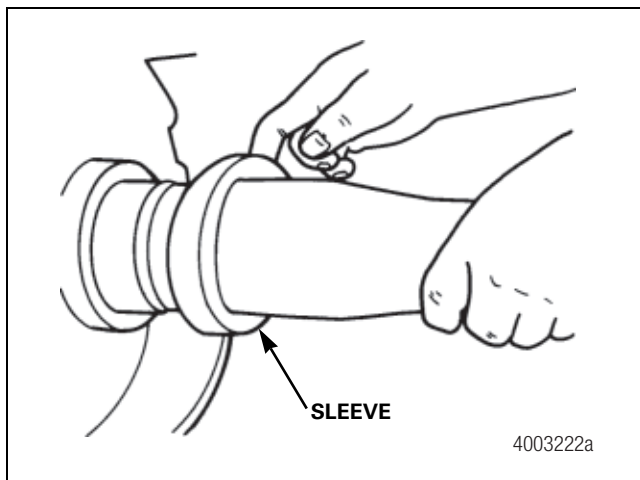
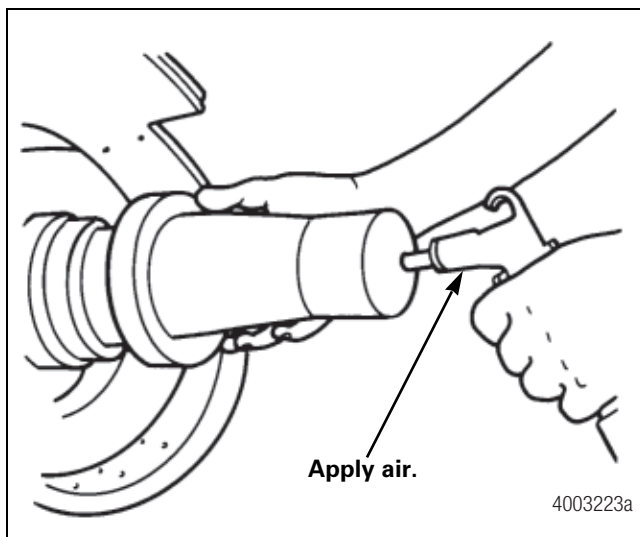

Figure 6.20
Figure 6.21
1. To remove the sleeve, pull on it and break the sleeve vacuum by either deflecting it slightly at the oil seal collar, Figure 6.20, or applying clean dry air into the slit on the end of the sleeve, Figure 6.21.